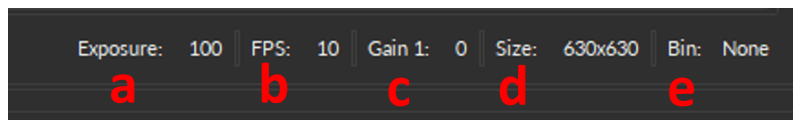

Figure 8.38: Microscope Monitoring Bar
2. The **Microscope Monitoring Bar** (Fig. 8.38) displays the parameters currently being used during the recording:
- The **Exposure** (Fig. 8.38, a) displays the value specified in Section 8.3.4, no. 1.
- The **FPS** (Fig. 8.38, b) displays the number of frames per second of the device. The maximum attainable frame rate in frames per second (fps) cannot surpass 1 divided by the exposure time in seconds. Thus increasing or decreasing the exposure in Section 8.3.4, no. 1 will change the **FPS**.
- The **Gain** (Fig. 8.38, c) displays the value specified in Section 8.3.4, no. 3.
- The **Size** (Fig. 8.38, d) displays the image resolution. If the image is **Cropped** (Section 8.3.4, no. 5), this value will be automatically updated.
- The **Bin** (Fig. 8.38, e) displays the value (none, 2x2 or 4x4) specified in Section 8.3.4, no. 6.